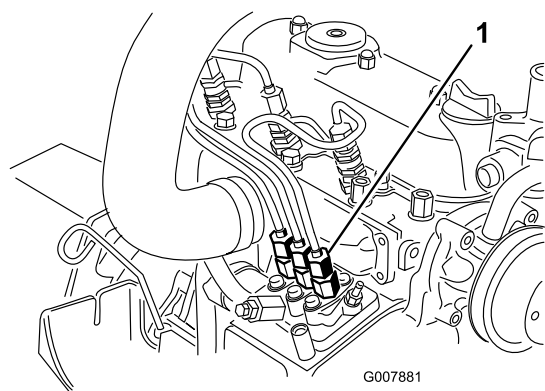

Figure 48
1. Place a rag under the pipe connection coming from the injection pump to the No. 1 injector nozzle as illustrated in Figure 48.